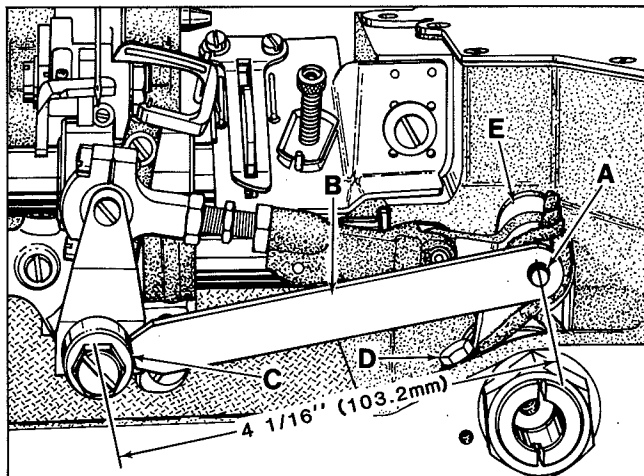
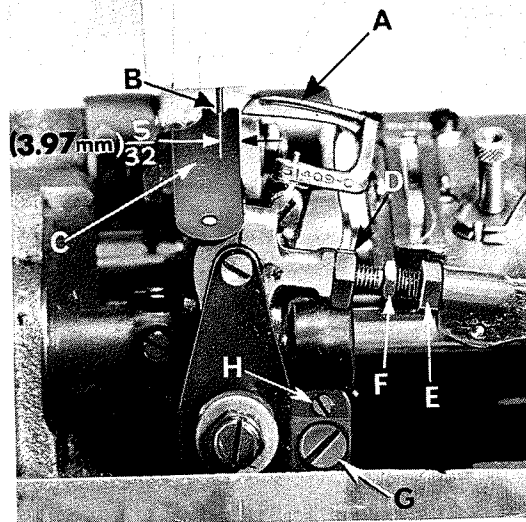

Fig. 5
Fig. 6
With looper at extreme right end of its travel, check location of the centerline of right looper connecting rod bearing using gauge No. 21227 CX. Remove nut from looper lever stud (A, Fig. 5) and place hole in gauge (B) over threaded stud. The left end of gauge should locate against the RIGHT side of looper rocker cone (C). If adjustment is necessary, loosen clamp screw (D), reposition looper drive lever (E) as required and retighten screw (D). If gauge is not available, setting can be checked with a scale. Dimension from centerline of stud (A) to centerline of cone (C) which should be 4 1/16 inch (103.3mm).
Insert a new needle, type and size as specified. Looper gauge is  $\frac{5}{32}$  inch (3.97mm) for Styles 56300 VF and 56300 VG. Set the looper (A, Fig. 6) so the distance from the center of the needle (B) to the point of the looper (A) is  $\frac{5}{32}$  inch (3.97mm), when the looper is at its farthest position to the right. Looper gauge No. 21225-5/32 (C, Fig. 5) can be used advantageously in making this adjustment. If adjustment is required, loosen nut (D) (it has a left hand thread) and nut (E) on connecting rod (F), turn the connecting rod forward or backward to obtain the  $\frac{5}{32}$  inch (3.97mm) dimension. Retighten both nuts, first nut (E), then nut (D). Make sure the left ball joint is in vertical position and does not bind after adjustment.
If adjustment is necessary, loosen lock screw (G, Fig. 6) and turn stop screw (H) as required. Turning stop screw clockwise sets the looper to the rear and turning it counterclockwise acts the reverse. Holding looper to the front while making this adjustment may prove helpful. Tighten lock screw when setting is obtained and recheck the adjustment.